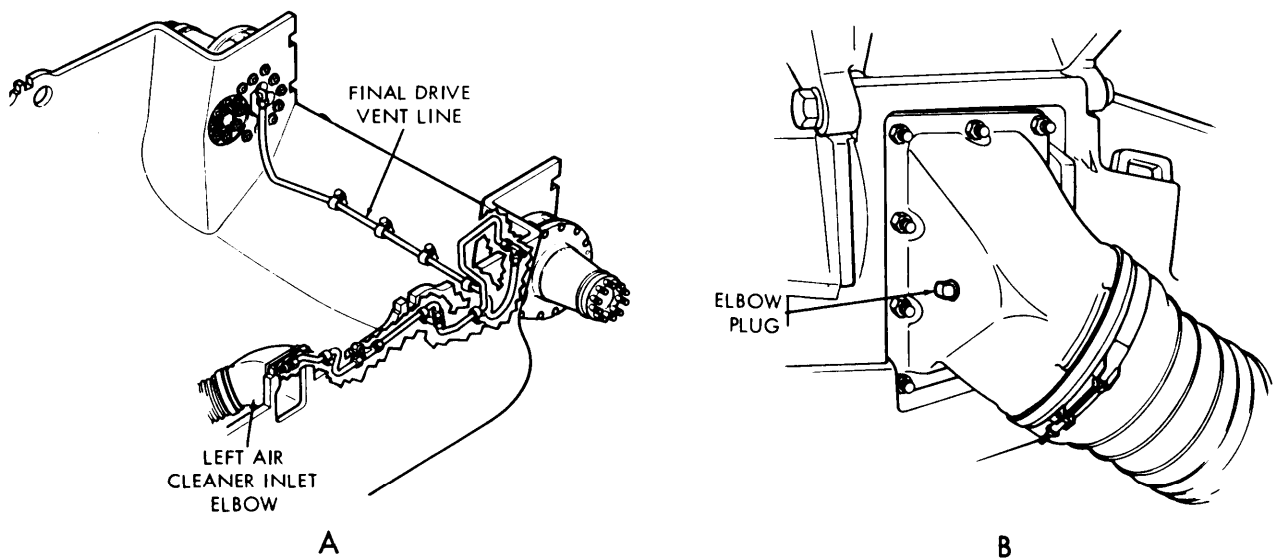

Figure 3-7. Final drive vent system inspection.
- (2) Inspect fuel tank for presence of vent line from fuel tank to air cleaner.
- (3) If vehicle is equipped with fuel tank to air cleaner vent system, go to step 4. If not, go to step 8.
- (4) Make sure valve arrow points toward right fuel tank. If installed incorrectly, fuel will enter the air cleaner. Reverse valve installation, if required.
- (5) Check hose assemblies for line pliability, deterioration and general serviceability. If any hoses are defective, replace (TM-20).
- (6) Inspect all fittings and connectors for cracks or other damage. Replace as necessary (TM-20).
- (7) Check for loose, broken or cracked clamps, brackets or bushings. Replace as necessary (TM-20). Go to step 10.
- (8) Check outlet elbow for plug (late model vent hole). Install replacement plug if missing.
- (9) Tighten pipe plug securely.
- (10) Close right side grille doors (TM-10).
*b. Final Drive Vent System (Fig. 3-7).*